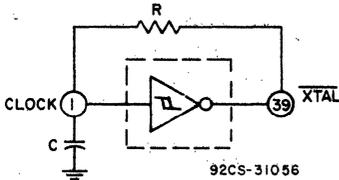
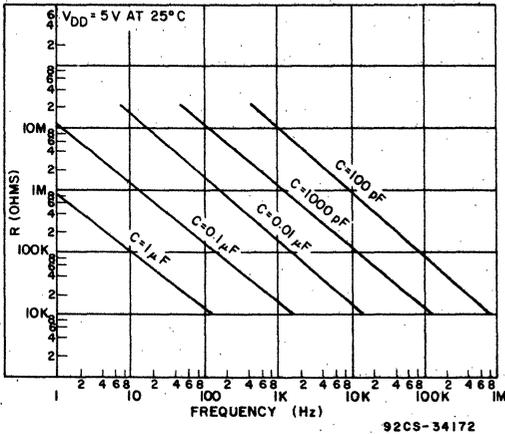
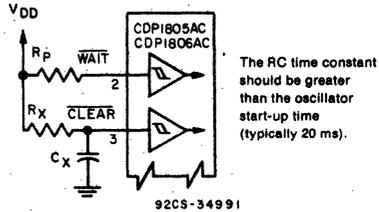

Fig. 7 - RC network for oscillator.
Fig. 8 - Nominal component values as a function of frequency for the RC oscillator.
Fig. 9 - Reset/run diagram.
On-Board Clock (see Fig. 7 and 8)
Frequency trimming capacitors may be required at terminals 1 and 39. For additional information on crystal oscillators, see ICAN-6565. Because of the Schmitt Trigger input, an RC oscillator can be used as shown in Fig. 7. The frequency is approximately 1/RC (see Fig. 8).
The first machine cycle after termination of reset is an initialization cycle which requires 9 clock pulses. During this cycle the CPU remains in S1, X, P-T, and then registers X, P, and R(0) are reset and MIE is set. Interrupt and DMA servicing are suppressed during the initialization cycle. The next cycle is an S0 or an S2 but never an S1 or S3. The use of a 71 instruction, followed by 00 at memory locations 0000 and 0001, may be used to reset MIE, so as to preclude interrupts until ready for them. Power-up reset/run can be realized by connecting an RC network to CLEAR (see Fig. 9).
May be initiated from the Pause or Reset mode functions. If initiated from Pause, the CPU resumes operation at the point it left off. If paused at TPA, it will resume on the next high-to-low clock transition, while if paused at TPB, it will resume on the next low-to-high clock transition (see Fig. 9). When initiated from the Reset operation, the first machine cycle following Reset is always the initialization cycle. The
All inputs except BUS 0—BUS 7 and \overline{ME} contain a Schmitt Trigger circuit, which is especially useful on the **CLEAR** input as a power-up RESET (see Fig. 9) and the **CLOCK** input (see Fig. 7).